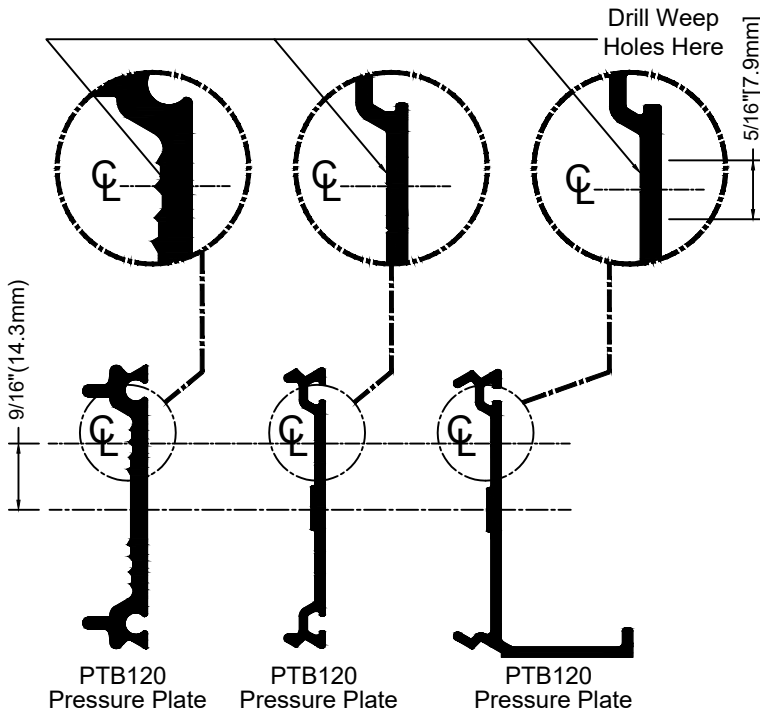
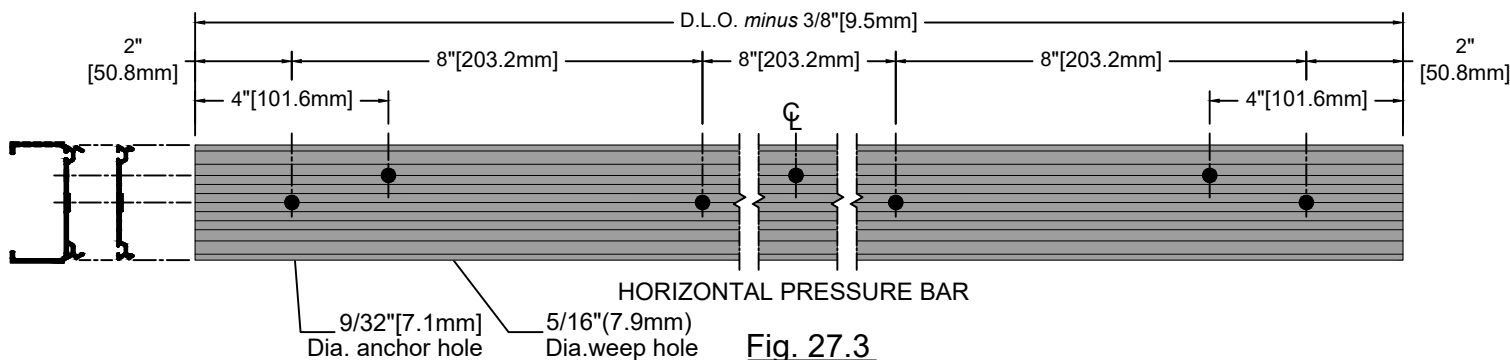

Fig. 27.4
Fig. 27.3
- A. Drill three 5/16"[7.9mm] diameter weep holes per horizontal pressure plate, one at the midpoint and one 4"[101.6mm] from each end as shown on Fig 27.3. When using M4TB224, M4TB225, and PTB120 locate the holes as shown on Fig. 27.4.